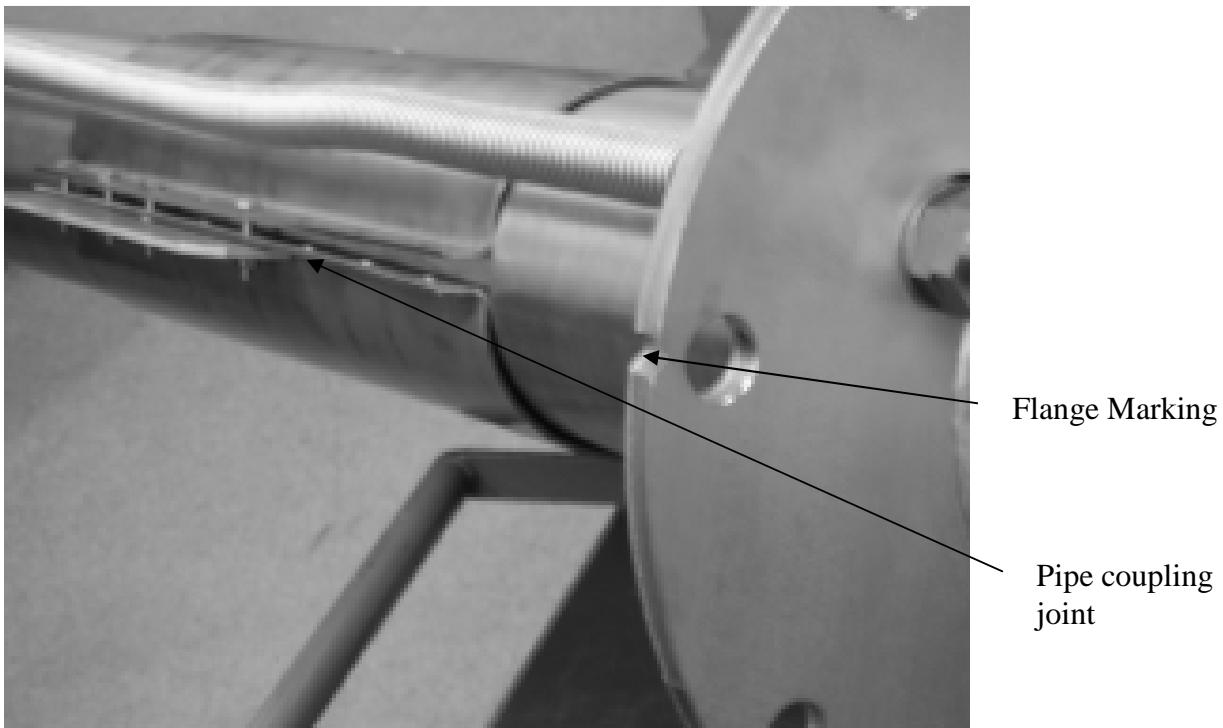

Figure 3
10. Mount the 5" / 8" Adapter, the marking on the (5" / 8" Adapter) 8" flange shall be in line with the pipe coupling joints, fig 3.